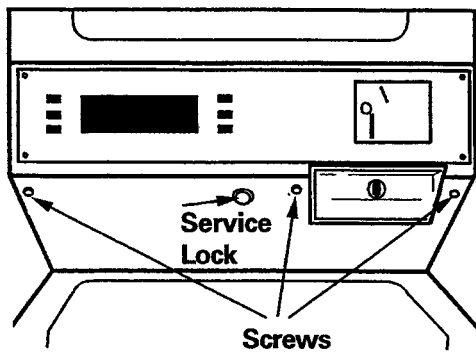

Figure 2-1 SL095TIF
2. Remove three screws securing the access panel to the washer/dryer (*Figure 2-1*).